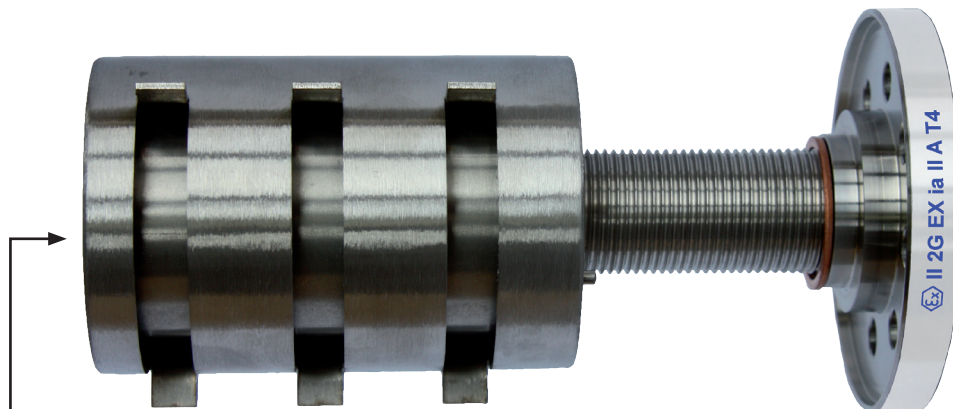

Fig. 2: SOPS for Ex-Installation with counter nut and seal ring
- Use Loctite 2701 on four turns of the counter nut and screw the nut and the copper seal ring 27x32x1,5 DIN 7603A onto the outstanding 16mm (refer to Fig. 2, page 3)